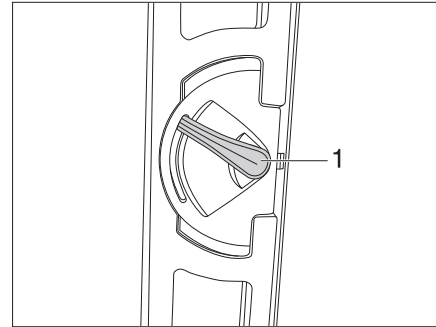
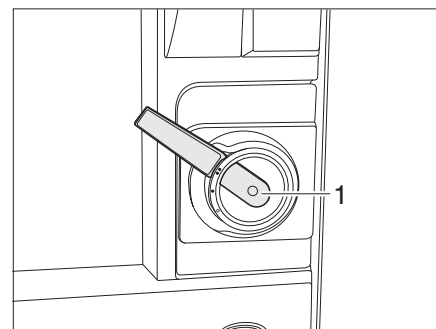

Fig. 23 Variant 1: Door lock of conversion door, inside, locked
Fig. 25 Variant 2: Door lock of conversion door, inside, locked
**Locking:** ■ Turn the handle (Fig. 23,1 or Fig. 25,1) approx. 45° upward and leave it in this position.